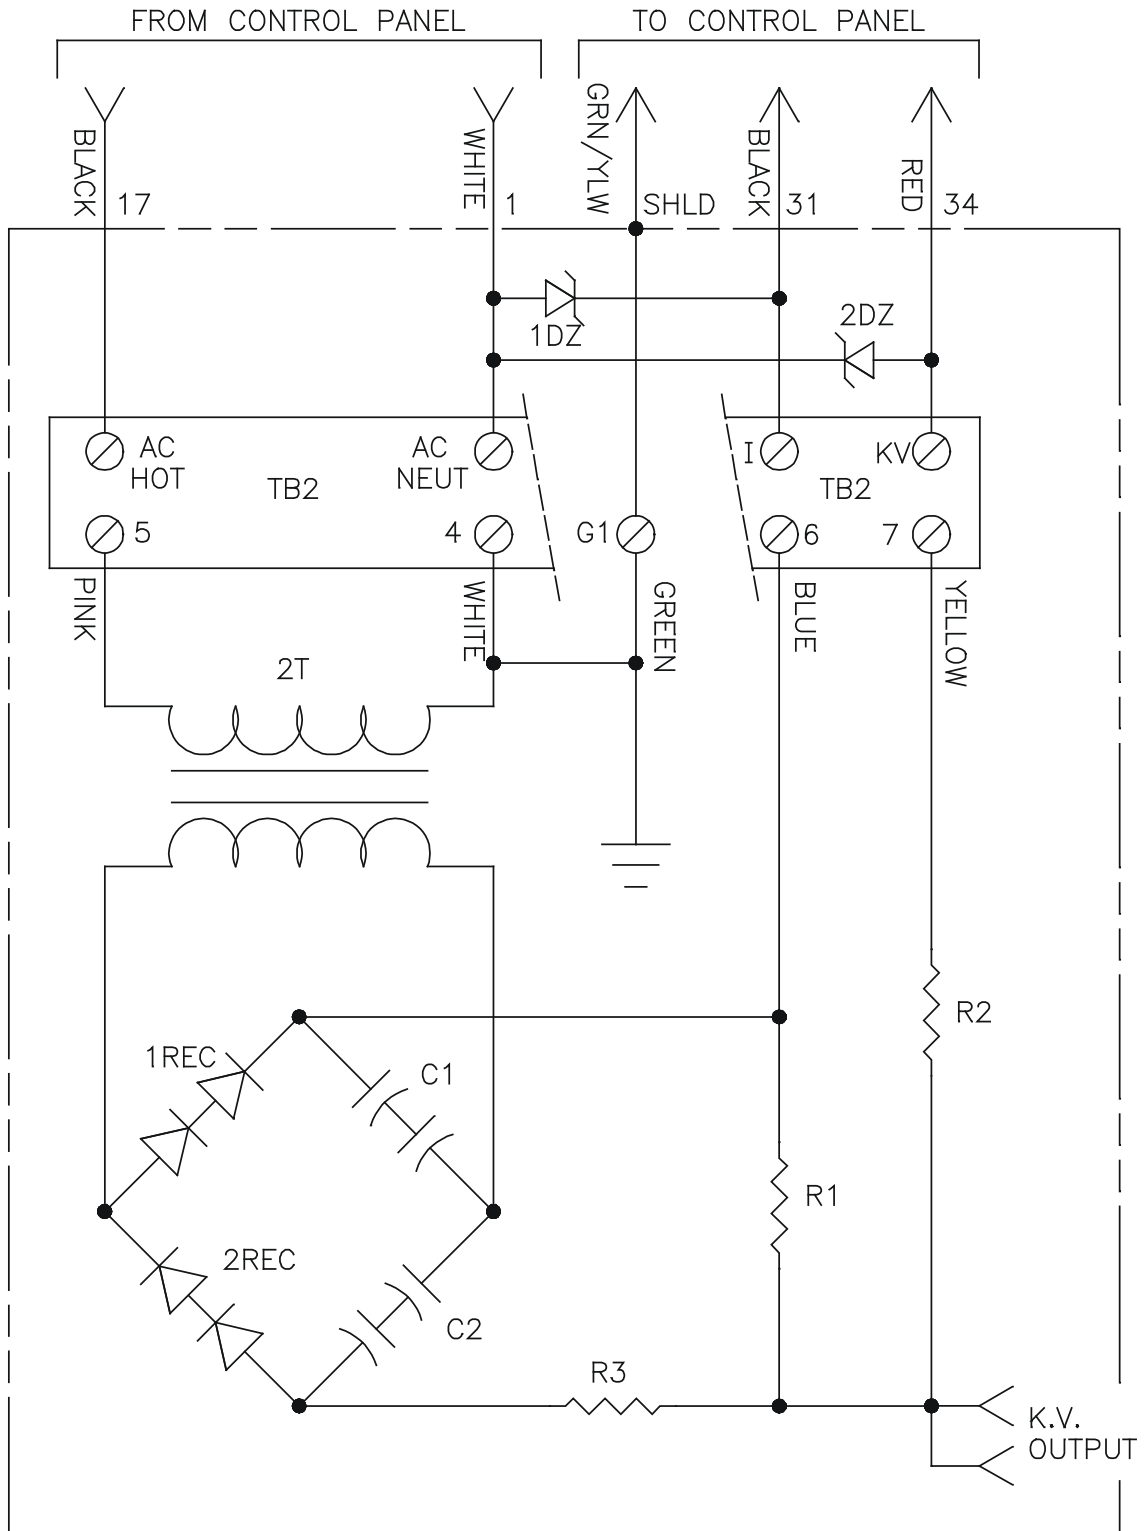
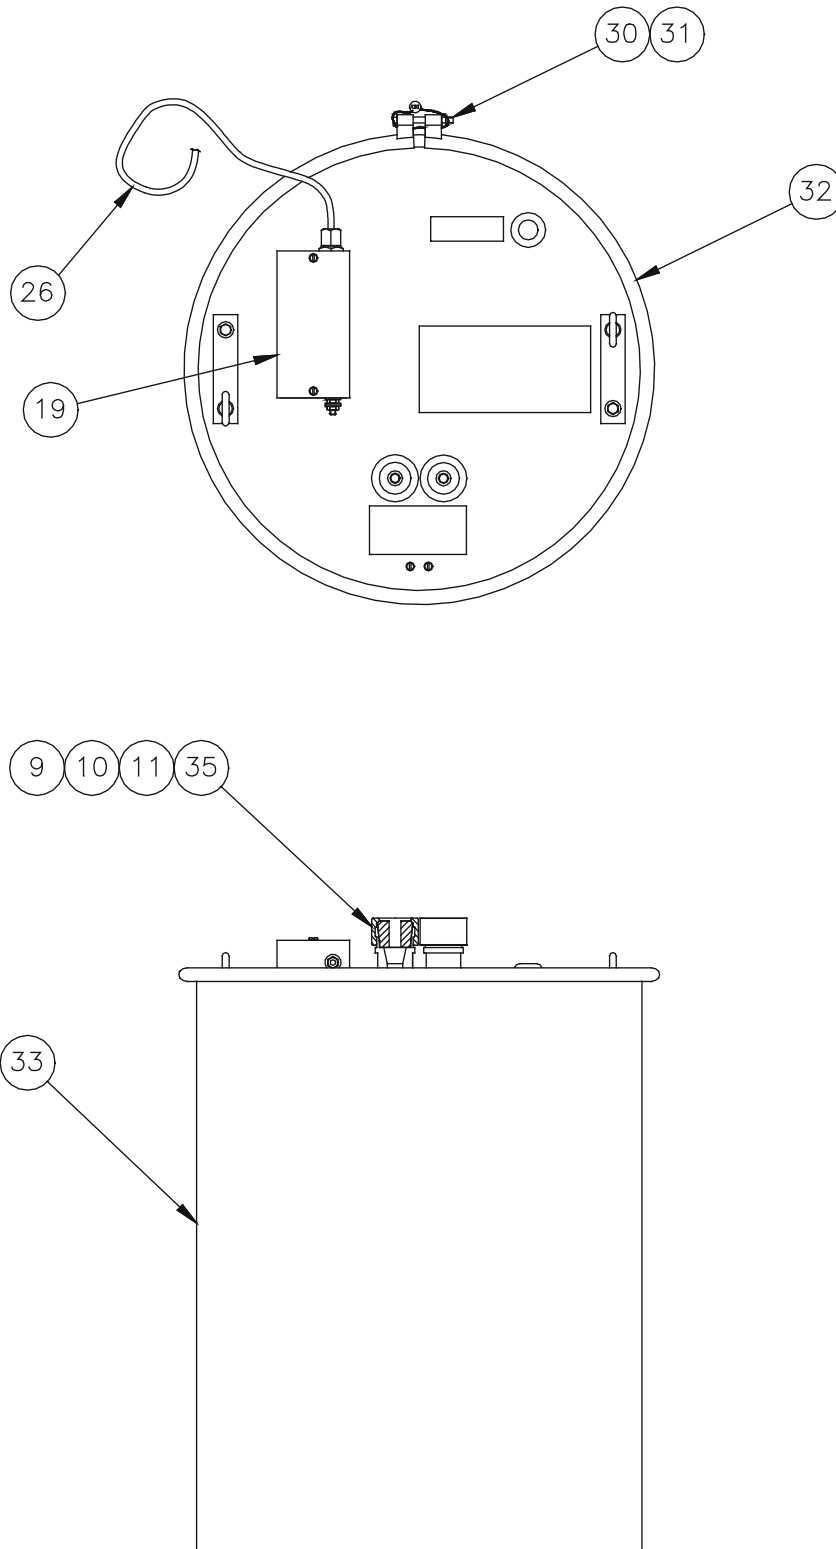

Figure 3: Schematic of LEPS5001 Power Supply Showing Connections to LECU5003 Control Panel
Figure 5a: LEPS5001 Power Supply
Route the control cable from the LEPS5001 Power Supply through one of the external wiring grommets located on the bottom of the control panel, and connect to the control panel terminal block as described in Figure 1. After making the connections, tighten the external wiring grommet around the black heat shrunk portion of the control cable. In general, conduit should be used to route the control cable (**check your local codes for conduit requirements**). Figure 3 shows a schematic of the LEPS5001 Power Supply and its connections to the LECU5003 Control Panel.
-REFER TO FIGURE 3
in Figure 3, illustrations in Figures 5a and 5b, "Theory of Operation" and "Parts Identification" sections of this manual, and the LECU5003 Control Panel service manual.